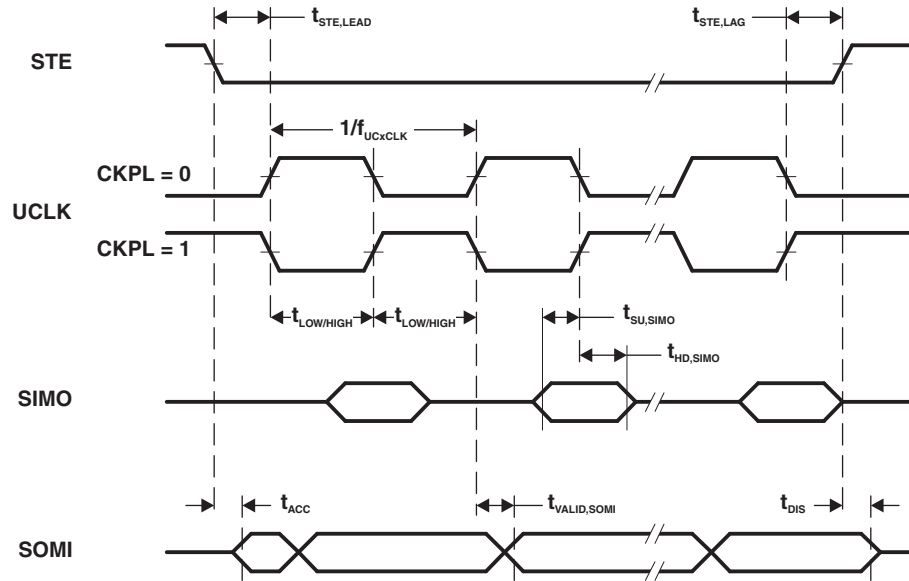
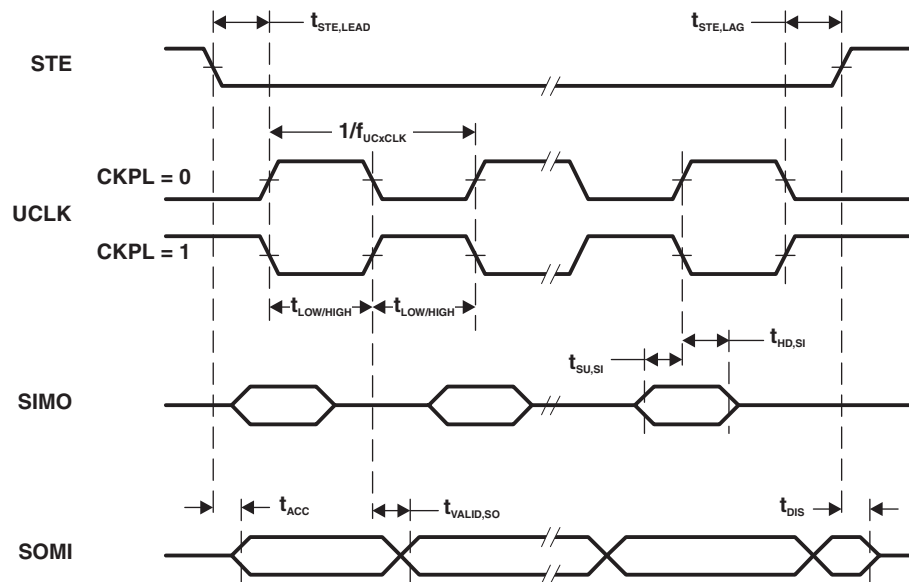

Figure 5-12. SPI Slave Mode, CKPH = 0
Figure 5-13. SPI Slave Mode, CKPH = 1
- (1) $f_{UCXCLK} = 1/2t_{LO/HI}$ with $t_{LO/HI} \geq \max(t_{VALID,MO(Master)} + t_{SU,SI(eUSCI)}, t_{SU,MI(Master)} + t_{VALID,SO(eUSCI)})$. For the master's parameters $t_{SU,MI(Master)}$ and $t_{VALID,MO(Master)}$ see the SPI parameters of the attached slave.
- (2) Specifies the time to drive the next valid data to the SOMI output after the output changing UCLK clock edge. Refer to the timing diagrams in Figure 5-12 and Figure 5-13.
- (3) Specifies how long data on the SOMI output is valid after the output changing UCLK clock edge. Refer to the timing diagrams in Figure 5-12 and Figure 5-13.